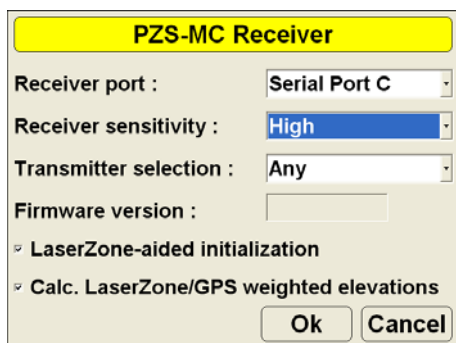

Figure 7-13. Temporarily Change PZS-MC Receiver Information
1. At the control box, press **Topcon Logo ▶ Control ▶ PZS-MC receiver** and select the following receiver parameters (Figure 7-13 on page 7-18):